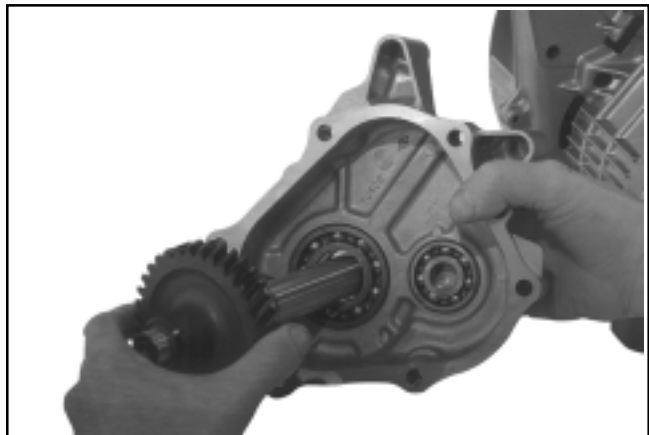

Figure 9-71. Removing Output Shaft/Gear from Cover.
4. Pull the output shaft/gear assembly out of the housing cover or closure plate. See Figure 9-71.